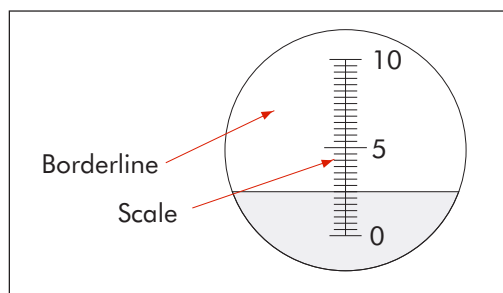

Figure 1
5. The scale and borderline should be visible (Fig. 1).
7. Read the value at the point where the borderline crosses the scale (Fig. 1).